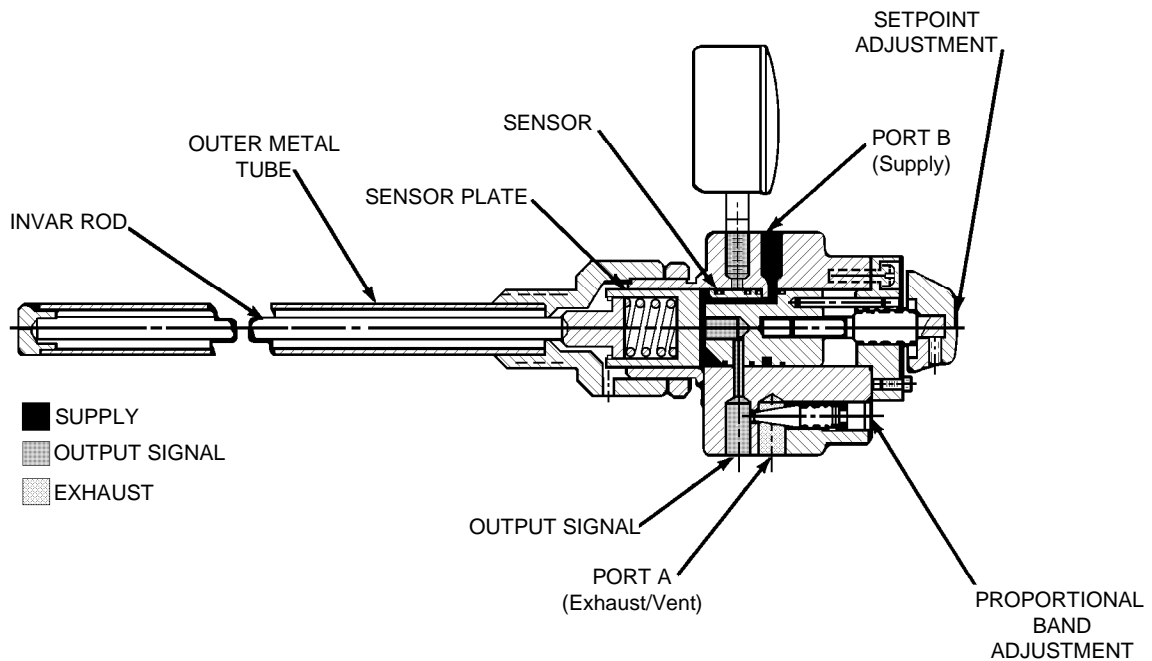

Figure 7: 764T Direct Action View Shows Port A & B Rotated From Actual Position
3. On direct acting controllers, see Figure 7, the supply enters PORT B. With an increase in the sensed temperature the supply air flowing through the sensor orifice increases, which elevates the output signal. The proportional band restriction regulators the flow of exhaust through PORT A.